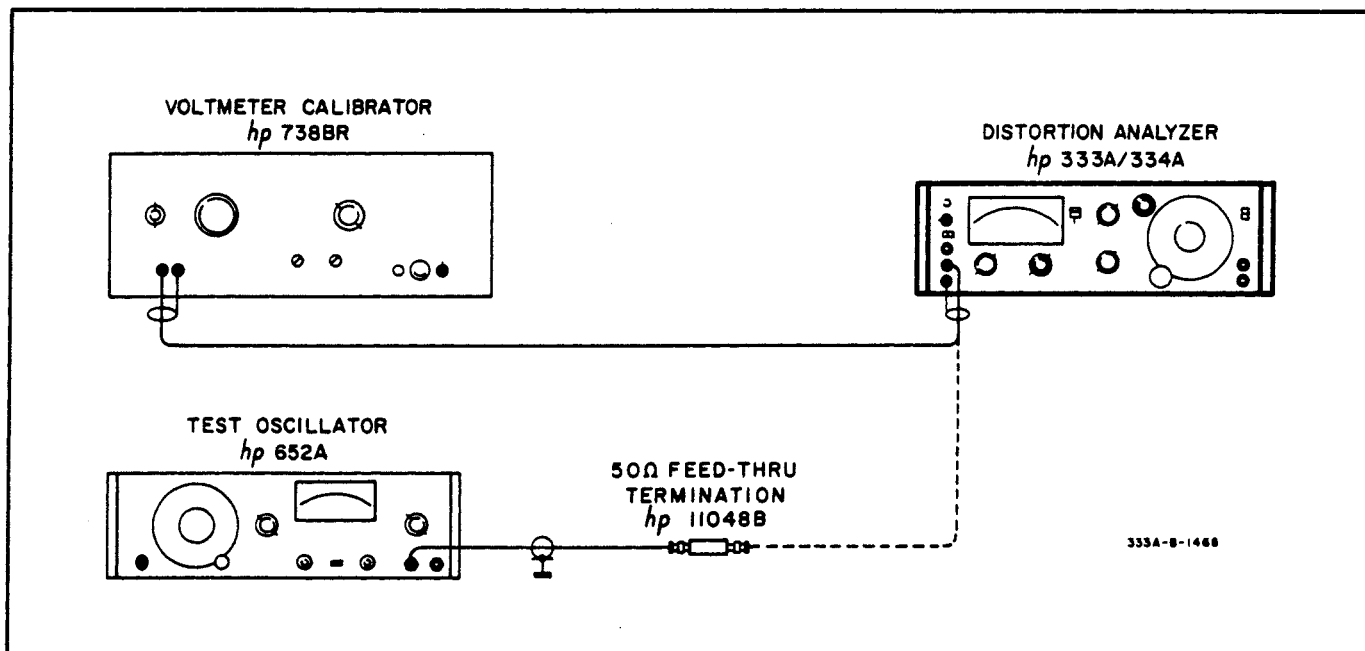

Figure 5-1. Voltmeter Accuracy and Frequency Response Check
- a. Connect voltmeter calibrator to 333A/334A as shown in Figure 5-1. Test oscillator will be used later in check.